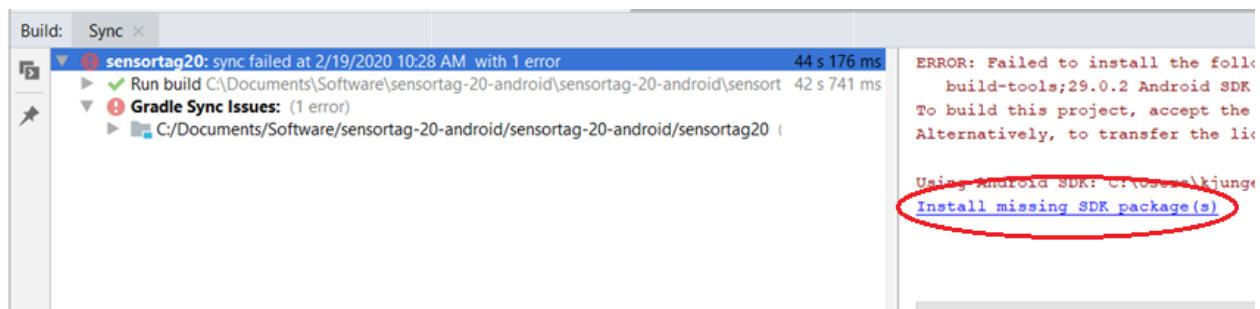

Figure 49, Sync Android SDKs
- j. If SDK is not present, sync may fail. Install missing SDK package and resync (Figure 49)